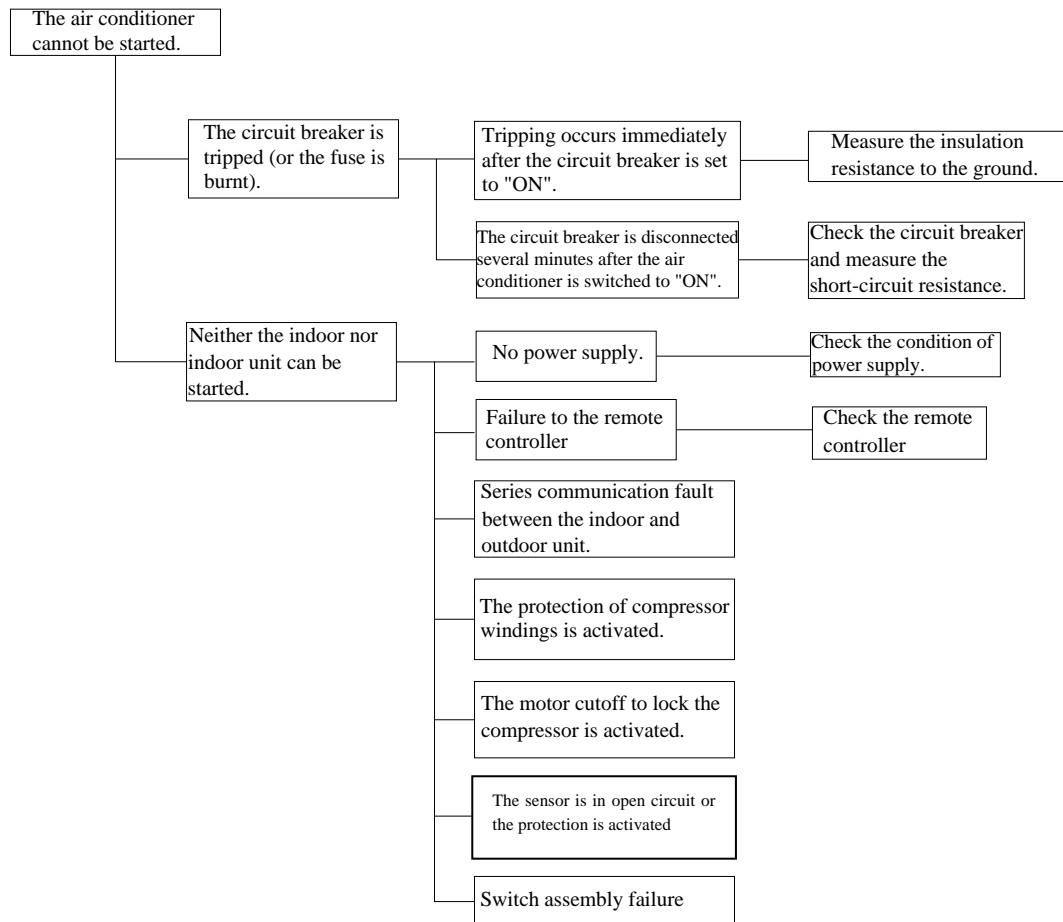

Fig.12-1
12.1 Process of Fault Analysis See Fig.12-1